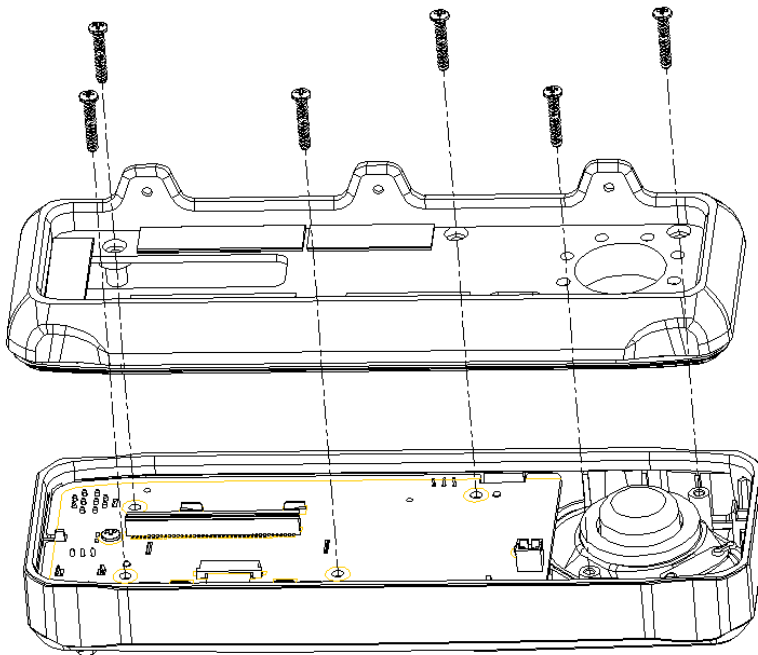

Figure 5.8
- (2) Unscrew 6 self drive screws, remove rear cover together with O-ring as per Figure 5.8